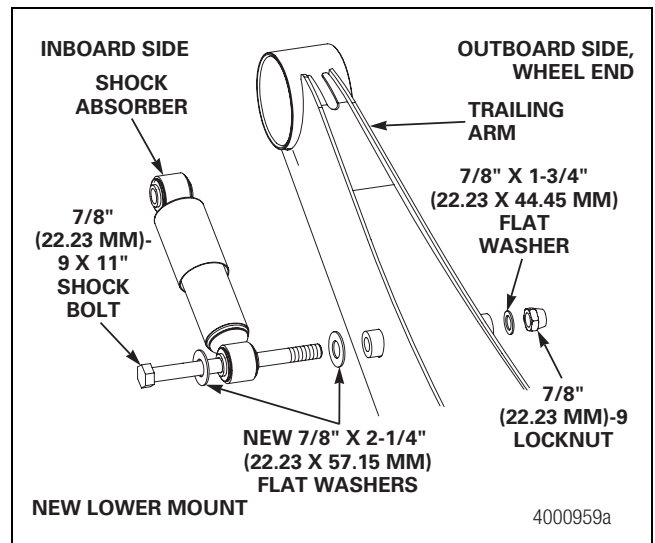

Figure 9.30
7. Install the new 7/8-inch x 2-1/4-inch O.D. (22.23 x 57.15 mm) washer between the bolt head and shock absorber. Install a new, larger washer between the shock absorber and the shock tube. Figure 9.30.
7. Install the new 7/8-inch x 2-1/4-inch O.D. (22.23 x 57.15 mm) washer onto the lower shock absorber bolt. Install the shock absorber, then the larger washer between the shock absorber and shock tube. Install the washer and locknut. Hand-tighten the nut. Figure 9.30.